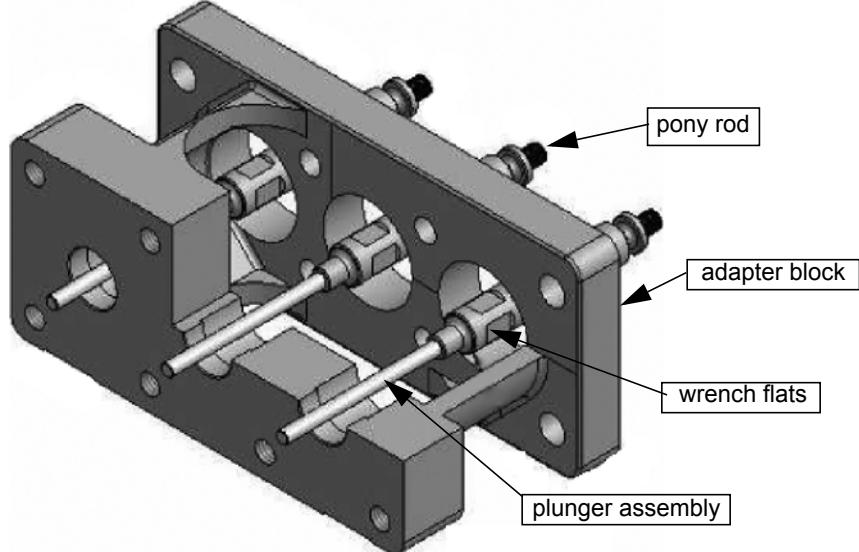

Figure 6-37
1. Ensure threads on **plunger assemblies** (Figure 6-37) and the face and threads of the **pistons** in the crankcase are clean.